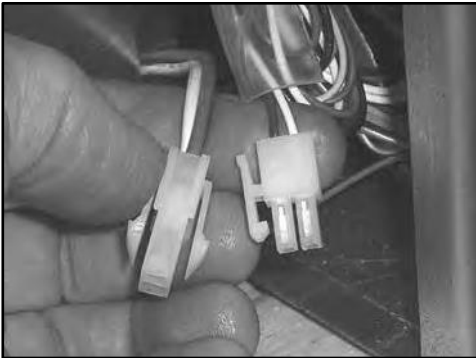

Figure 14: Disconnecting Standing Pilot Switch.
- b) Disconnect the connection to the Standing Pilot Switch as shown in Figure 14.